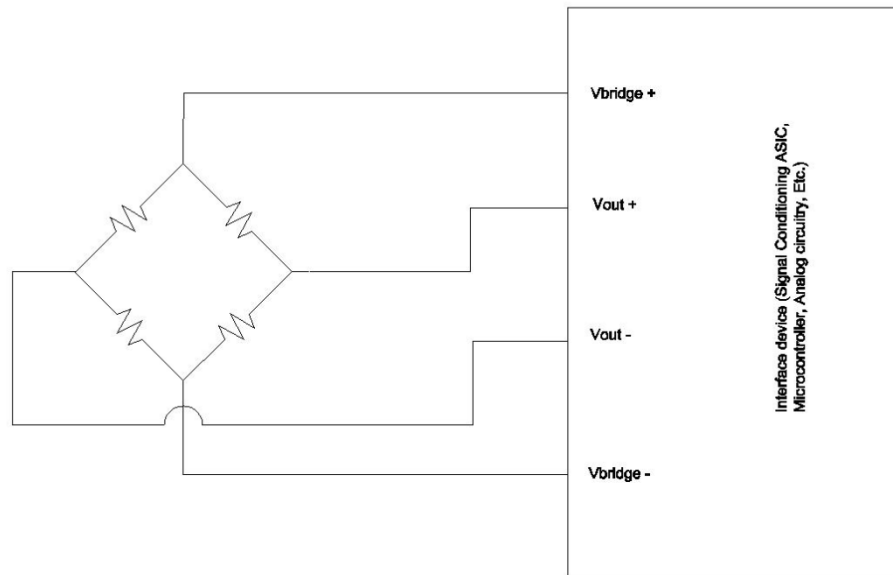
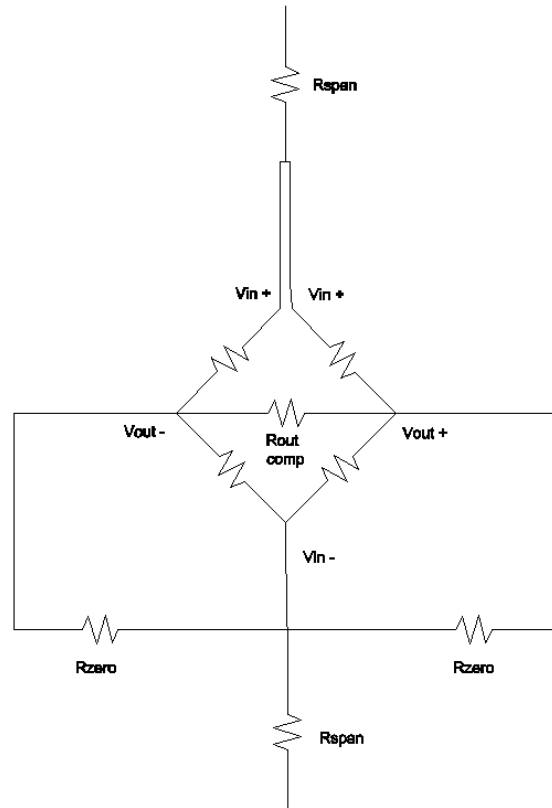
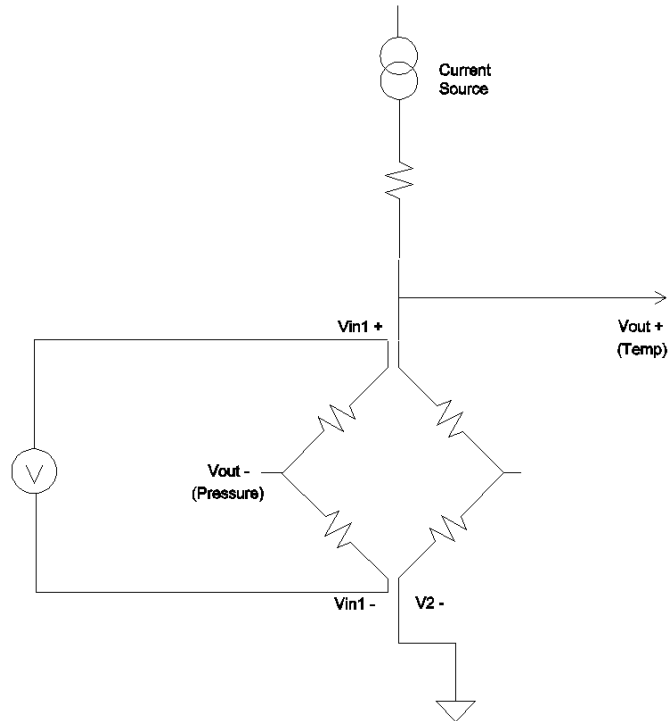

Figure 4 – Closed Bridge with Interface device (Signal Conditioning ASIC, Microcontroller, Analog circuitry, Etc.)
Figure 5 – Half open bridge with passive compensation
Figure 6 – Full open bridge with two functions
Figure 4 depicts a closed bridge with active compensation.
- b. *Half Open* – Active compensation can be applied to the half open bridge as in Figure 4 shown above. Passive compensation can also be applied to the half open bridge as seen below in Figure 5.
The implementation of a half open bridge with passive compensation in Figure 5 shows the added components as well as the extra electrical connection (V_{in+}) required to close the bridge. The additional resistors, as they are named, accomplish span, zero and output impedance compensation. These components need to be added after open bridge measurements have been taken at the required conditions.
- c. *Full Open* – The full open bridge has a wide variety of implementations. In addition to being used as a full open bridge it can be used as a half open (Figure 5) or a closed bridge (Figure 4). Figure 6 is an illustration of how a full open bridge could be used for two functions – temperature and pressure.